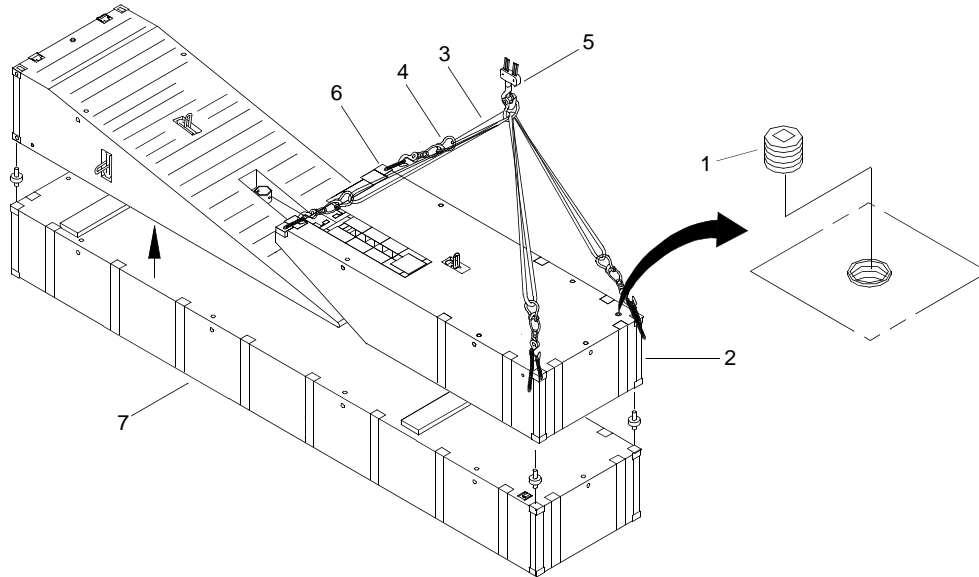

Figure 6. Placing the End Rake Module
13. Verify drain plugs (figure 6, item 1) on end rake modules (figure 6, item 2) are installed and tight.
14. Attach four 8,400 lb slings (figure 6, item 3) and 36,000 lb adjustable chain slings (figure 6, item 4) from crane (figure 6, item 5) to corners (figure 6, item 6) on end rake module (figure 6, item 2).
15. Using slings (figure 6, items 3 and 4) and crane (figure 6, item 5), lift end rake module (figure 6, item 2) and place on top of center module (figure 6, item 7).
16. Remove 36,000 lb adjustable chain slings (figure 6, item 4) from corners (figure 6, item 6) on end rake module (figure 6, item 2).